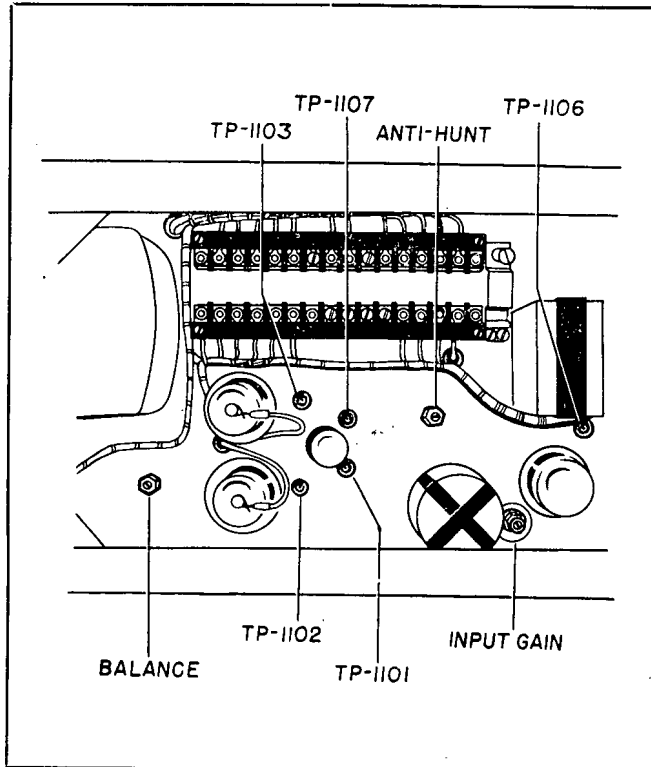

Figure 3-46. Internal Controls of Servo Amplifier
(34) Place the ON-OFF switch of the Rotation Control Unit in its ON position.
(35) Turn the INPUT GAIN control R-113 counter-clockwise. This control is shown in Fig. 3-46. If the Antenna hunts, connect an a-c voltmeter with a
50-volt range to terminals 63 and 64 on terminal board. Then adjust the BALANCE control (R-1112) until the system ceases to hunt and the voltage reading is steady. This control is shown in Fig. 3-46.
(36) Place the SLEWING MOTOR switch in one of its $1\frac{1}{4}$ positions.
(37) Advance the setting of the INPUT GAIN control until the Antenna follows smoothly in both CW and CCW rotation. This can be observed by watching the Bearing Indicator dials.
(38) If the voltage indicated on the meter is fluctuating at 42 cps, adjust the ANTI-HUNT control R-1118 until the rotation is even and smooth and the voltage fluctuation disappears. This control is shown in Fig. 3-46. Again advance the INPUT GAIN control until hunting starts and re-adjust the ANTI-HUNT control as before to stop the hunting. Continue these two adjustments alternately until the optimum point is reached where any further advance of the INPUT GAIN control cannot be compensated by adjusting the ANTI-HUNT control. Disconnect the voltmeter and connect it with a 0.5 mf capacitor in series with one of its leads to terminals 68 and 69 on terminal board E-1101. Adjust the ANTI-HUNT control for minimum voltage.
(39) Reverse the direction of rotation several times in rapid succession. The Antenna should come to a full stop without hunting. With the SLEWING MOTOR switch in its OFF position, the Antenna should follow the HAND SLEW control smoothly and